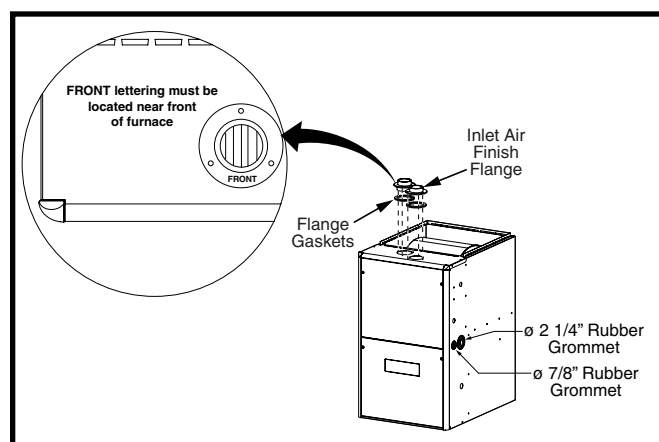
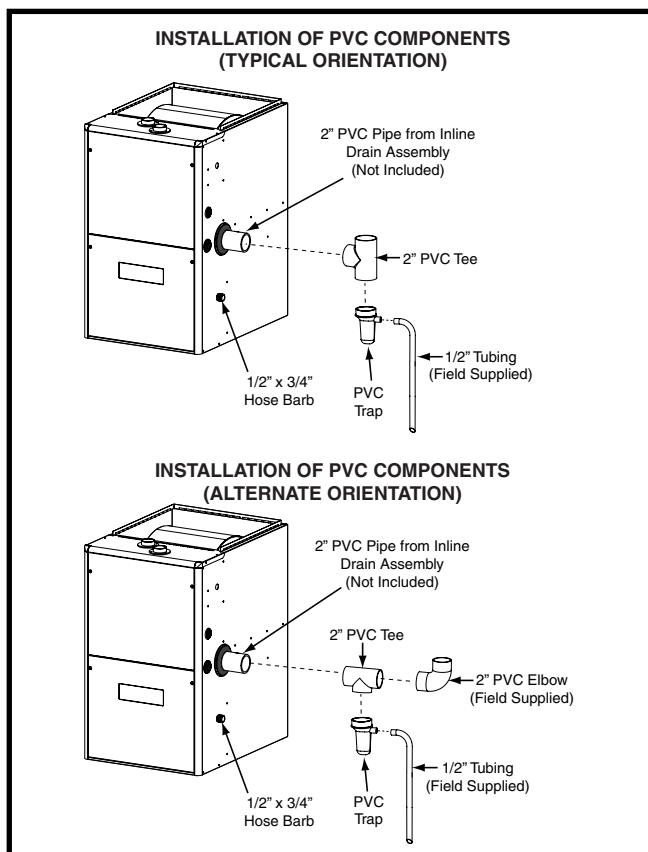

Figure 13. Finish Flange & Rubber Grommets
Figure 14. PVC Components
The components in Figure 13 (page 16) & Figure 14 (page 16) are included in the extra parts bag supplied with the purchase of the J962V*D furnace. Depending on your particular installation, some of these components are optional and may not be used. Please refer to the descriptions and accompanying figures when installing these items.
NOTE: Make sure the flange is properly oriented so that the FRONT lettering is located near the front of the furnace as shown in Figure 13.
The 2 1/4" rubber grommet is used to seal the opening between the furnace cabinet and the 2" PVC vent pipe. The rubber grommet should be installed in the 3" hole prior to running the vent pipe out of cabinet. No sealants are required. See Figure 13.
- The 2" PVC pipe shown in Figure 14 is not provided in the extra parts bag.
The 2" PVC Tee and Trap are used when the inducer is rotated to vent out thru the left or right side of the furnace cabinet. See Figure 14.
1. Install the PVC Tee vertically on the 2" vent pipe that is extending out the side of the cabinet. Permanently bond them together using appropriate primer and cement. Refer to the typical orientation shown in Figure 14.
1. Install the 2" PVC Tee horizontally on the 2" vent pipe that is extending out the side of the cabinet. Permanently bond them together using appropriate primer and cement. Refer to the alternate orientation shown in Figure 14.